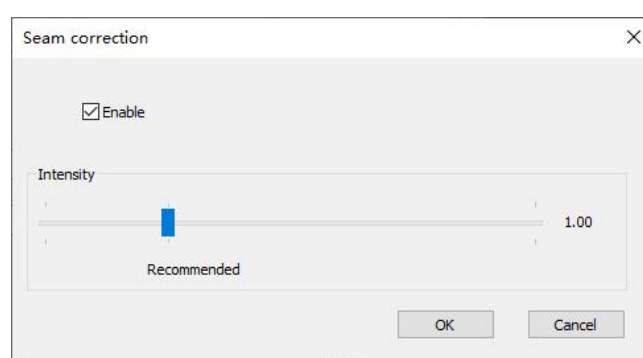

Fig.4-27 Seam correction settings
- **Seam correction:** Click **Seam correction** in the **Project Settings** tab, and then select the **Enable** checkbox in the pop-up window to enable the seam correction function. See Figure 4-27.